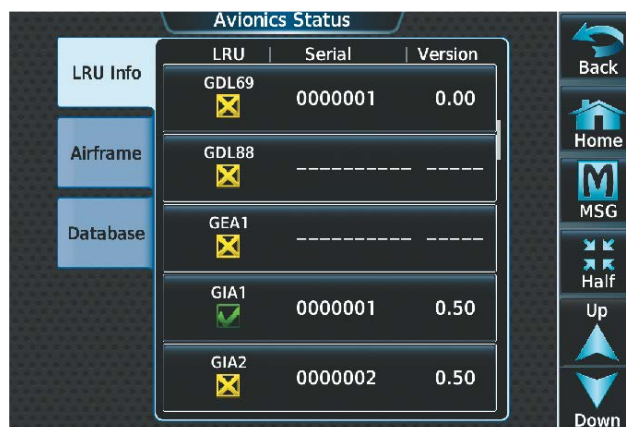

Figure 8-121 Detected Failure in Data Link Receiver
- 3) Scroll to display the **GDL69A** field as shown in Figure 8-121.